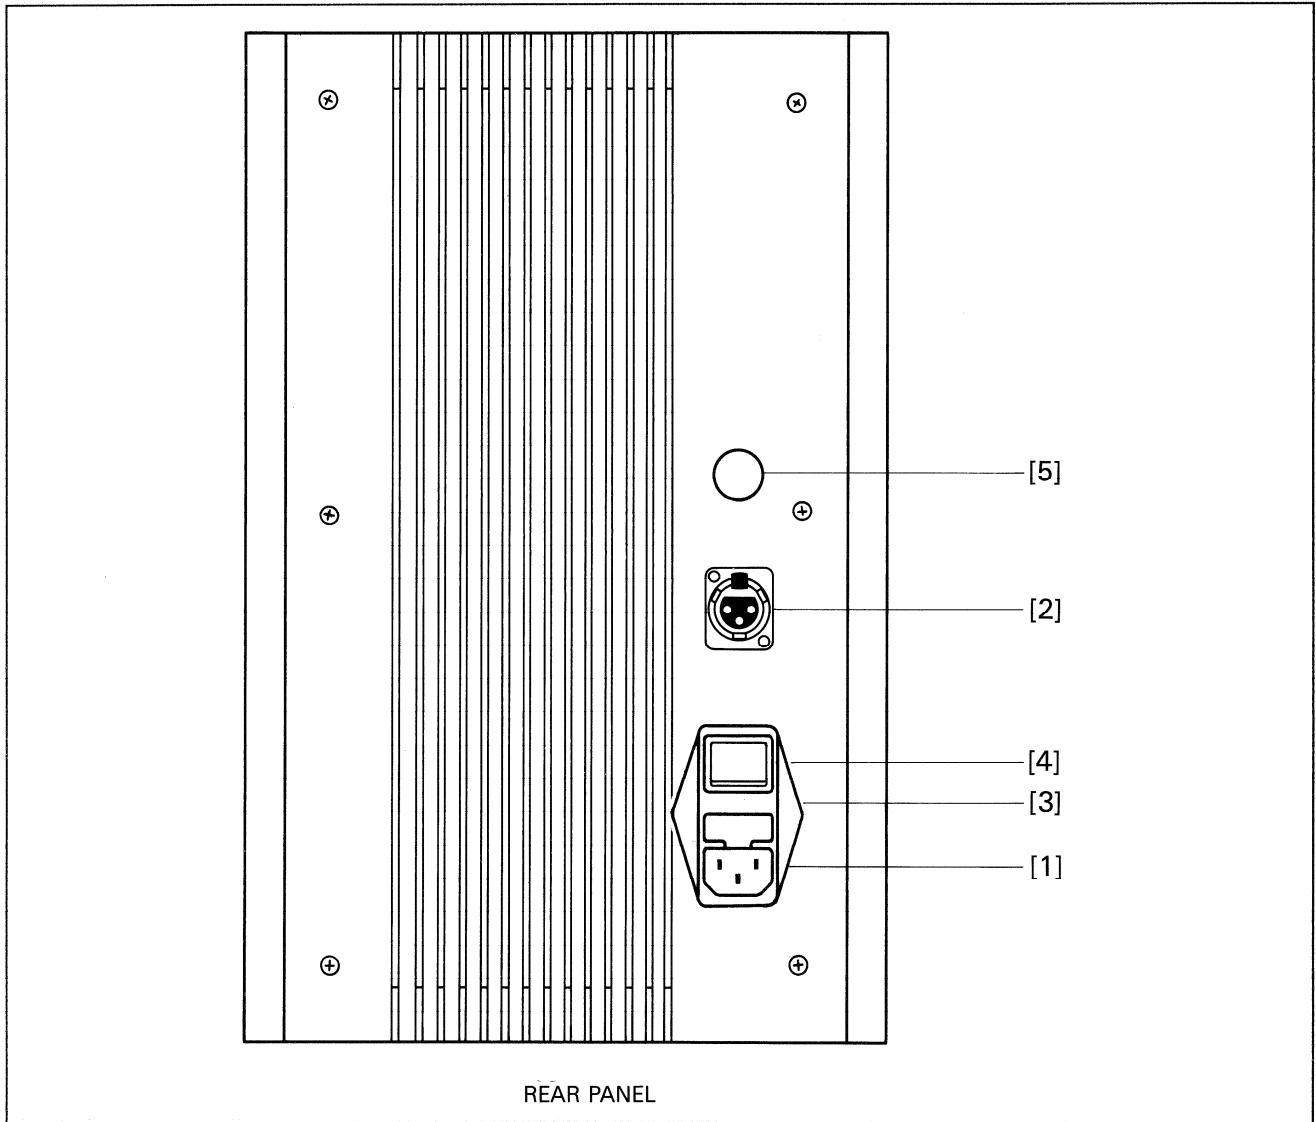

Fig. 2.1 Connectors and operator controls
- Power switch [4]: See fig. 2.1.
- Volume control [5]: 0 to -30 dB, see fig. 2.1.